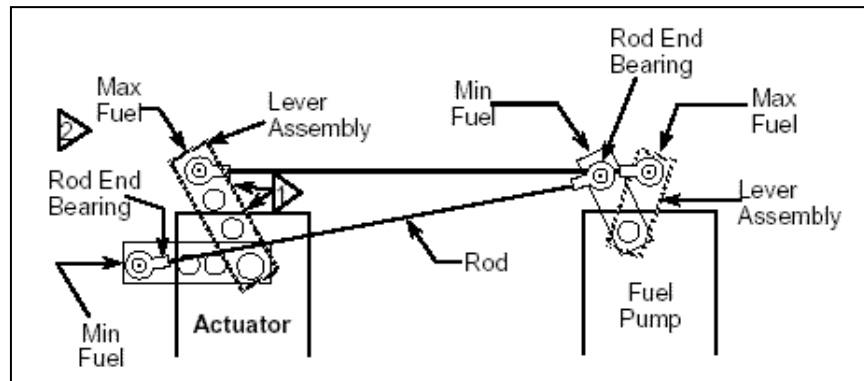

Figure 4. Rotary Actuator to Rotary Fuel Pump Linkage
2. Set up the linkage and rod end bearings as shown in **Figures 4 and 5**.